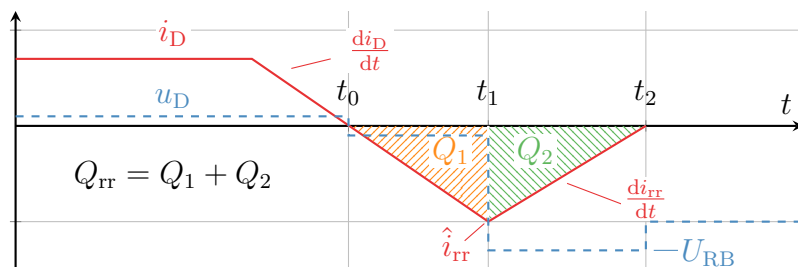

Figure 2.2.2: Turn-off behavior of a fast silicon diode.
2.2.5 Beside the conduction losses, also switching losses need to be considered in practice. In Fig. 2.2.2 the voltage and current waveforms are visualized for the turn-off event of a diode (reverse recovery effect). Therefore, calculate the turn-off losses for a fast diode with a commutation inductivity loop of  $L_c = 500 \, \text{nH}$ . The peak reverse recovery current is  $\hat{i}_{rr} = 4 \, \text{A}$  and the reverse recovery time is  $t_{rr} = t_2 - t_0 = 46.6 \, \text{ns}$ .